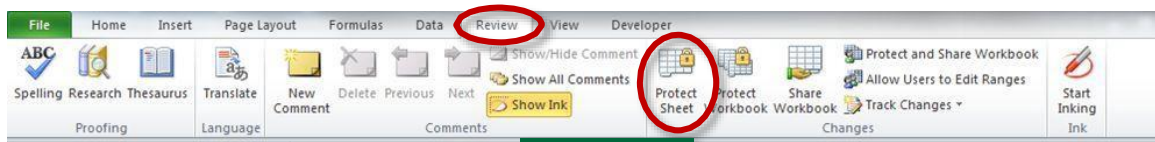

Figure 16
1. On the **Review** tab, click **Protect Sheet**, as shown in Figure 16.